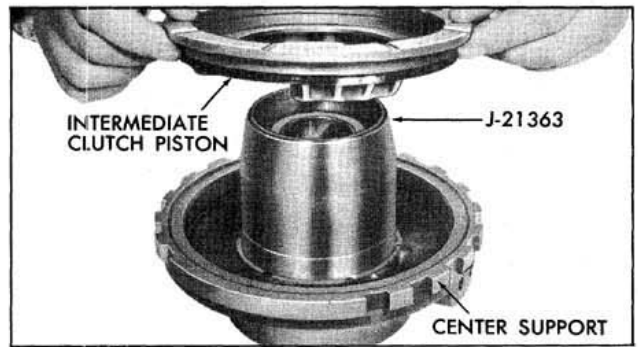

Fig. 6-164 Installing Direct Clutch Piston
4. Place Seal Protectors, Tools J-21362-Inner, J-21409-Outer, over hub and clutch housing and install clutch piston with rotating motion. (Fig. 6-164)